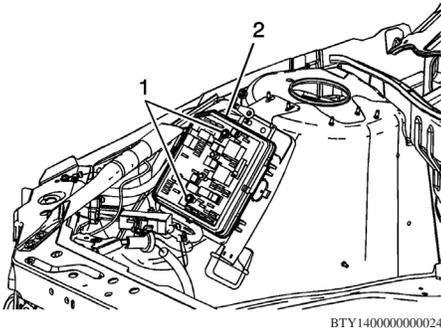

**Fig. 2** Electrical center cover removal
2. Remove electrical center cover (1), **Fig. 2**.
9. Install electrical center cover (1), **Fig. 2**.